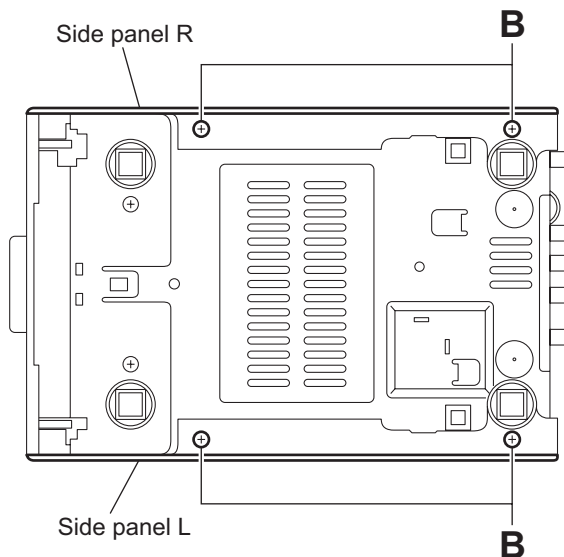

Fig.2
- (2) From the bottom side of the main body, remove the four screws **B** attaching the side panels L/R. (See Fig.2.)